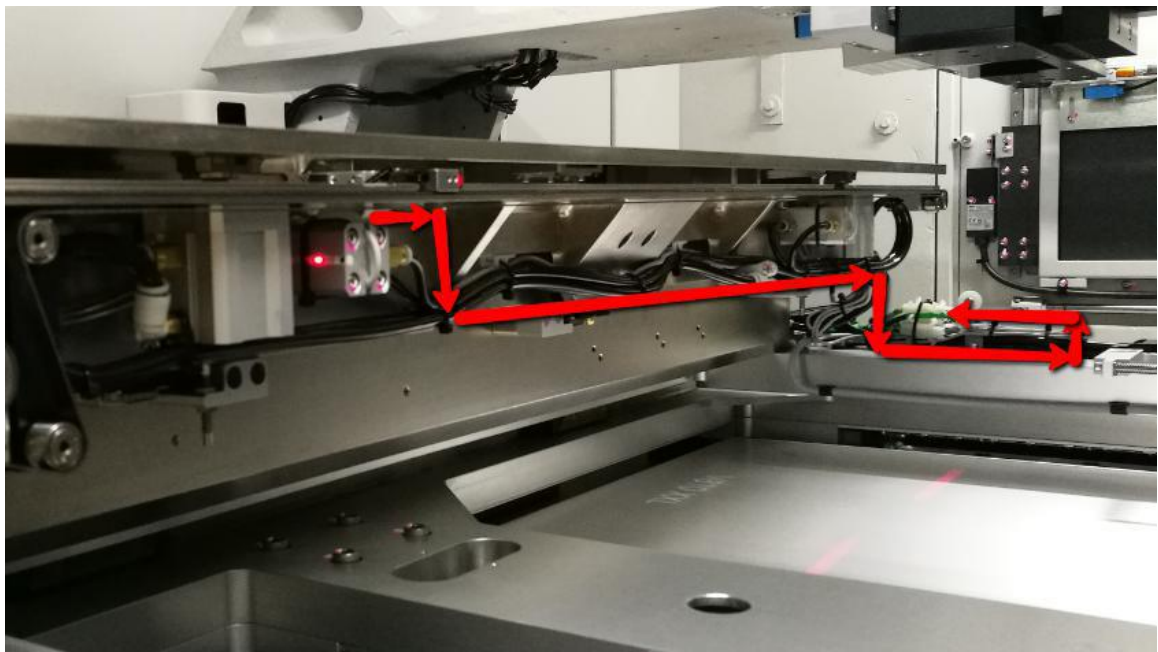

Figure 44 Right PIP Out Reed Sensor Routing
3. Route back Right PIP Out Reed sensor by following sensor routing as shown in Figure 44 below. Apply back necessary cable ties.